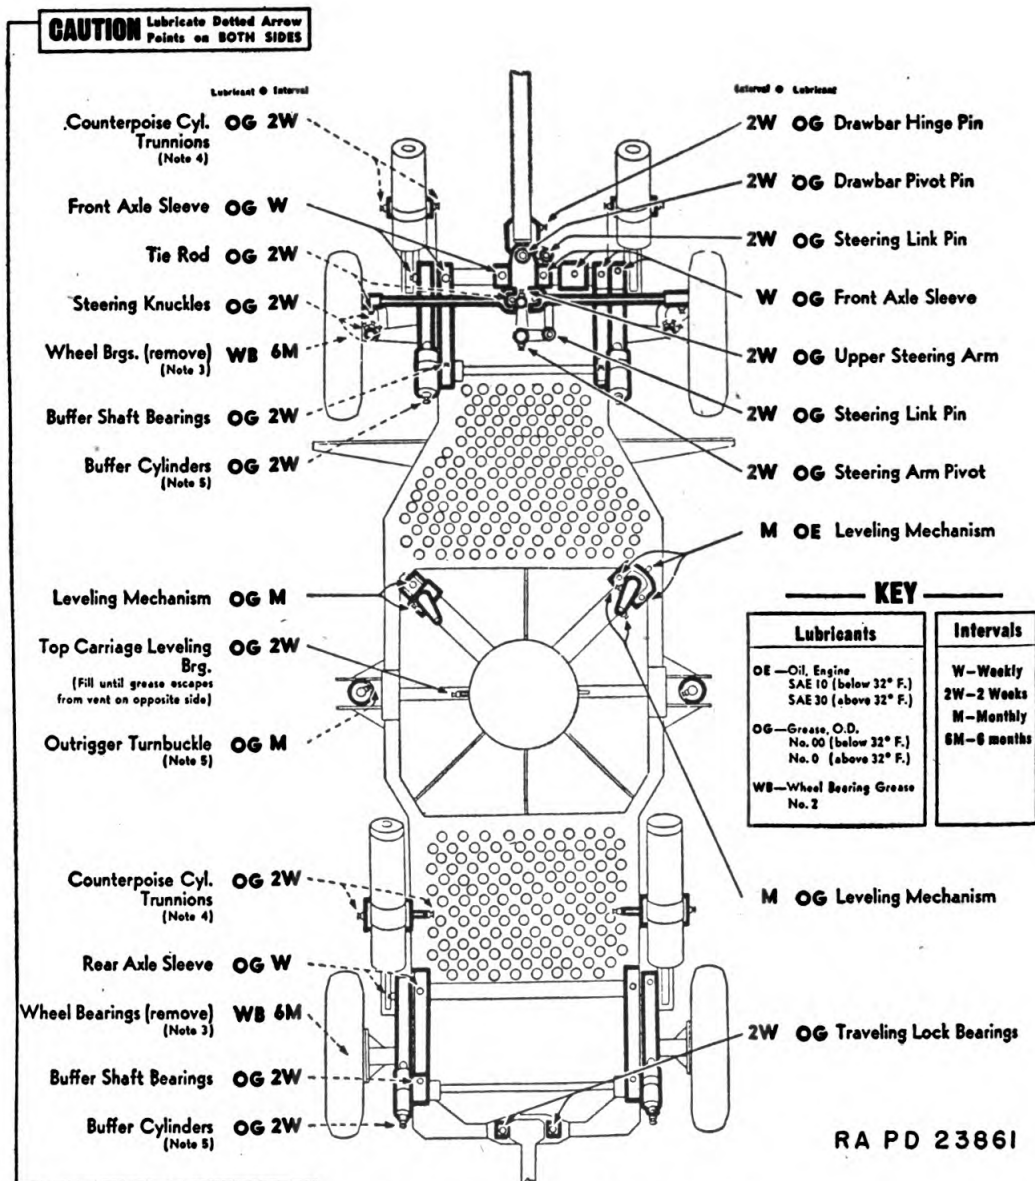

FIGURE 47.—Lubrication guide for chassis.
(1) Remove the bearings from the hub and wash them in solvent, dry-cleaning, until all the old grease is removed.
(2) Lay them aside to dry and wash the inside of the hub and the spindle with solvent.
(3) When bearings are thoroughly dry, pack the races with grease, wheel bearing, and reassemble in hub. Do not apply any grease to the inside of the hub or on the spindle. The grease in the bearing races is sufficient to provide lubrication until the next service period. An excess may result in leakage of the lubricant into the brake drum.
(4) Mount the wheel on the spindle and tighten the nut on the end of the spindle until there is a slight drag when the wheel is rotated.
(5) Back off the nut until the wheel turns freely (one-half turn is usually sufficient) and insert cotter pin.
(6) Install hub cap. The cap must be free of grease.
*d. Lubrication guide.*—Lubrication instructions for all points to be serviced by the using arm are shown in the Lubrication Guide (figs. 47 and 48), which specifies the types of lubricants required and the intervals at which they are to be applied. Supplementary instructions appear in the notes. These guides are to be used for the M3